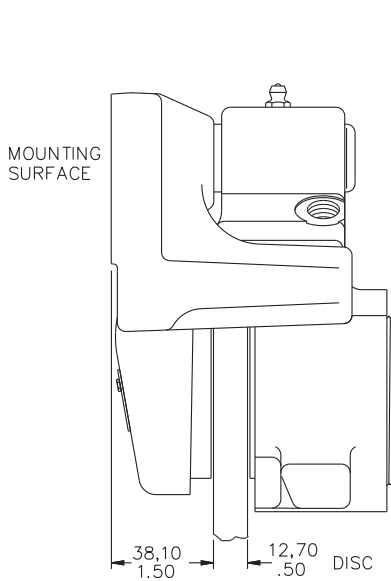

FIGURE 1
1. Figures 1 and 2 on page 2 illustrate the two methods of mounting this series of brakes. The mounting surface to disc face dimension should be closely held as this provides for the required caliper movement. Use shims as needed to obtain the proper distance.
Dimensions shown in Figures 1 and 2 are typical for all models. Mounting surface to disc face dimension is typical of rectangular and triangular brackets. Mounting bolts not included.